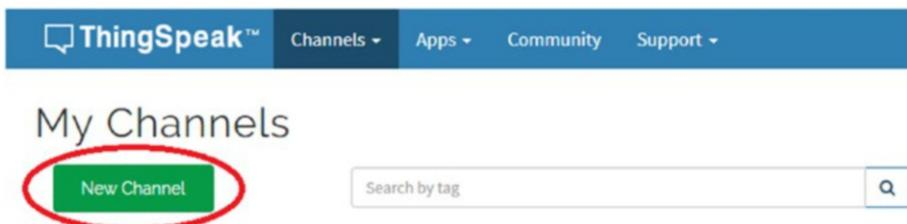

Figure 6-2. Creating a new channel
2. On the My Channels page, click the New Channel button (Figure 6-2).